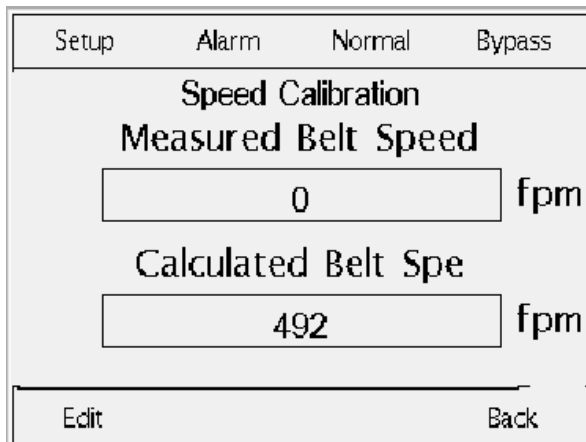

Figure 2-4. Speed Calibration Screen
2. Navigate through the user interface to the Calibration screen, and select the Speed Calibration screen (see Figure 2-4)